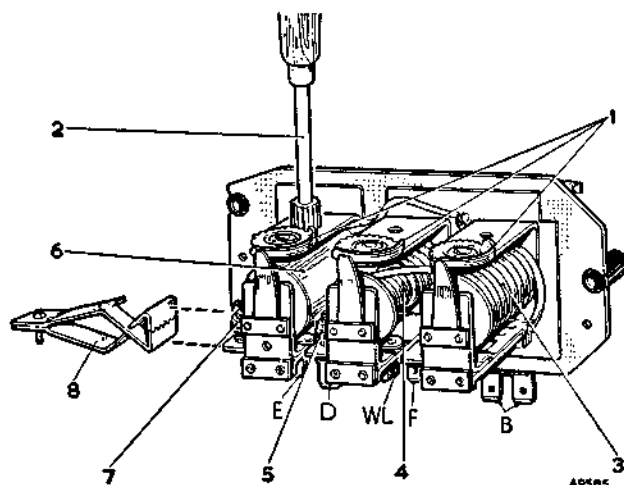

Fig. N.7
For adjustment purposes toothed cams are carried on the front limb of each magnet frame to enable voltage and current settings to be made with a special tool (see Fig. N.7).
Stop the engine and remove the control box cover. Restart the engine and run the dynamo at 3,000 r.p.m. Using a suitable tool (see Fig. N.7), turn the voltage adjustment cam until the correct setting is obtained. Turn the tool clockwise to raise the setting or anti-clockwise to lower it. Check the setting by stopping the engine and then again raising the generator speed to 3,000 r.p.m. Restore the original connections and refit the cover.
13.3 volts. If the cut-in occurs outside these limits an adjustment must be made. In this event proceed as follows. Remove the control box cover. Using a suitable tool (see Fig. N.7), turn the cut-out relay adjustment cam until the correct setting is obtained. Turn the tool clockwise to raise the setting or anti-clockwise to lower it. Stop the engine, restore the original connections, and refit the cover.
The dynamo must be made to develop its maximum rated output whatever the state of charge of the battery might be at the time of setting. The voltage regulator must therefore be rendered inoperative, and to do this the bulldog clip shown in Fig. N.7 is used to keep the voltage regulator contacts together.
Using a suitable tool (see Fig. N.7), turn the current adjustment cam until the correct setting is obtained. Turn the tool clockwise to raise the setting or anti-clockwise to lower it. Stop the engine, restore the original connections, and refit the control box cover.
Disconnect the battery. Using a suitable tool (see Fig. N.7), turn the adjustment cam of the regulator being adjusted to the point giving minimum lift to the armature tensioning spring (by turning the tool to the fullest extent anti-clockwise). Slacken the appropriate contact locking nut and unscrew the contact. Insert a feeler gauge of .056 in. (1.42 mm.) thickness between the armature and the regulator head as far back as the two rivet heads on the underside of the armature. With the gauge in position, press squarely down on the armature, and screw in the contact until it just touches the armature contact. Tighten the locknut and withdraw the gauge. Repeat this procedure on the remaining regulator.